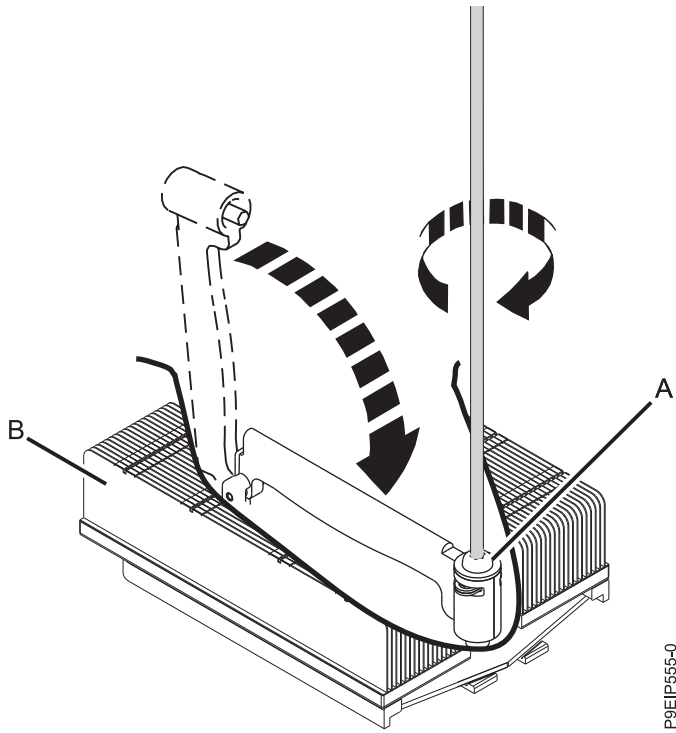

Figure 77. Tightening the load arm screw
10. Move the load arm (A) into position over the heat sink (B) and tighten the load arm screw with a #3 Phillips screw driver, as shown in Figure 77 on page 68.